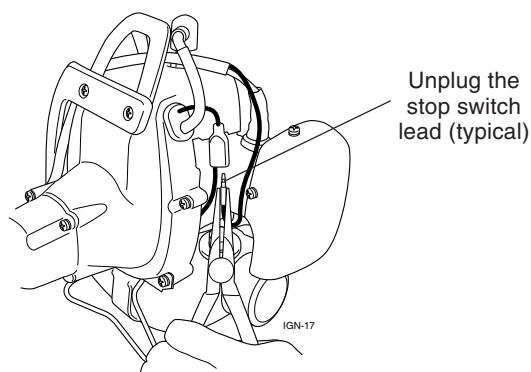

Figure 5.9 Disconnecting the stop switch.
- Make sure the ignition stop switch is in the "on" position, or disconnect the switch as shown in Figure 5.9.
(Figures 5.9 and 5.10).